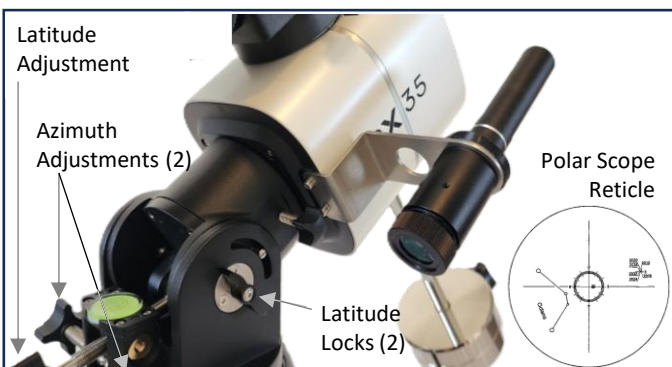

Fig. 4.17
2. **Mechanical Adjustment Only:** Use **only** the Latitude and Azimuth adjustment knobs on the mount to center the pole. See Fig. 4.17.